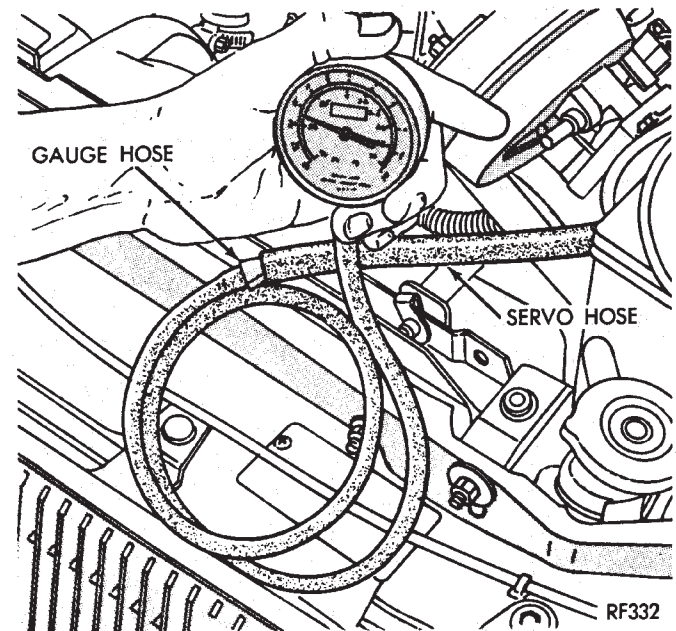

Fig. 11 Vacuum Gauge Test
(1) Disconnect vacuum hose at the servo and install a vacuum gauge in the hose (Fig. 11).